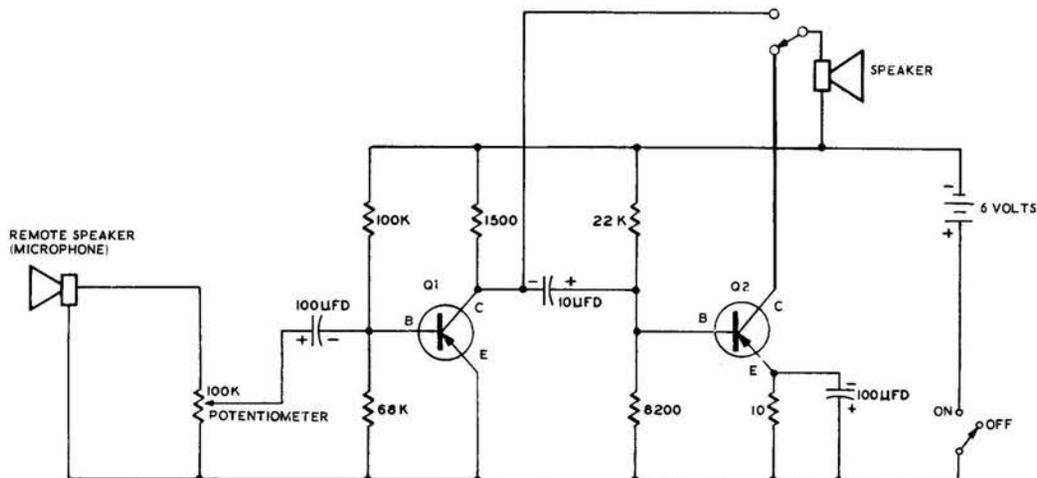

Figure 5U SCHEMATIC
- () Connect the positive (+) lead of a 10 μ fd electrolytic capacitor to lug 2 of terminal strip A (NS). Connect the negative (-) lead of this capacitor to lug 3 of terminal strip B (NS).
- () Connect a 1500 Ω resistor from lug 3 (S) to lug 4 (NS) of terminal strip B.
- () Connect a 100 K Ω resistor from lug 4 (S) to lug 5 (NS) of terminal strip B.
- () Connect a 10 Ω resistor from lug 4 of terminal strip A (NS) to lug 6 of terminal strip B (NS). Be careful not to confuse this 10 Ω resistor with the 10 K Ω resistor.
- () Connect a 68 K Ω resistor from lug 5 (S) to lug 6 (NS) of terminal strip B.
- () Connect a 22 K Ω resistor from lug 2 (NS) to lug 3 (NS) of terminal strip A.
- () Connect an 8200 Ω resistor from lug 2 of terminal strip A (S) to lug 6 of terminal strip B (NS).
- () Connect the positive (+) lead of a 100 μ fd capacitor to lug 6 of terminal strip B (S). Connect the negative (-) lead of this capacitor to lug 4 of terminal strip A (S).
- () Connect a length of hookup wire from the +6 volt solder lug (S) to lug 2 of the ON-OFF switch (S).
- () Connect a length of hookup wire from the -6 volt solder lug (S) to lug 3 of terminal strip A (S).
- () The circuit shown in the schematic for Figure 5U is now connected on your experimental chassis. The 2-way switch is connected so that in one position (marked LISTEN) you will have a one-transistor amplifier, and in the other position (marked TALK) you will have a two-transistor amplifier.